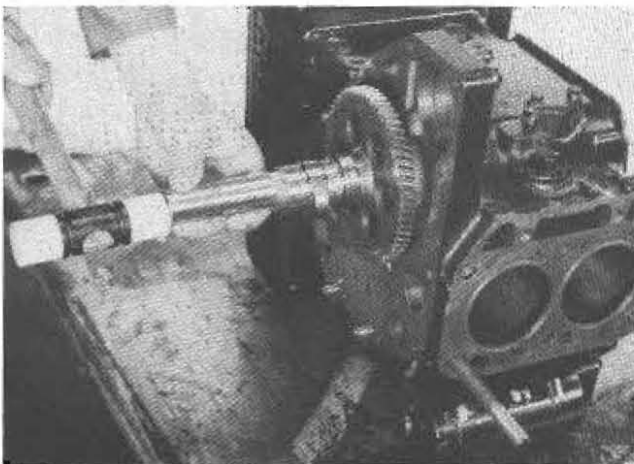

Fig. 4-1 Camshaft Installation
3. Apply oil to the camshaft ball bearing and gently install and tap shaft into place in cylinder block (Fig. 4-1). Install and tighten camshaft screw.